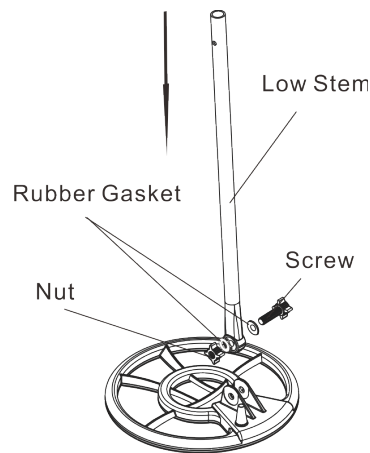

Fig.2
1. Relax the lock knob on the lower stem, take down the bolt. Install the lower stem on the search coil, and lock it tightly (See Fig.2). Note that the rubber washer should be placed correctly.